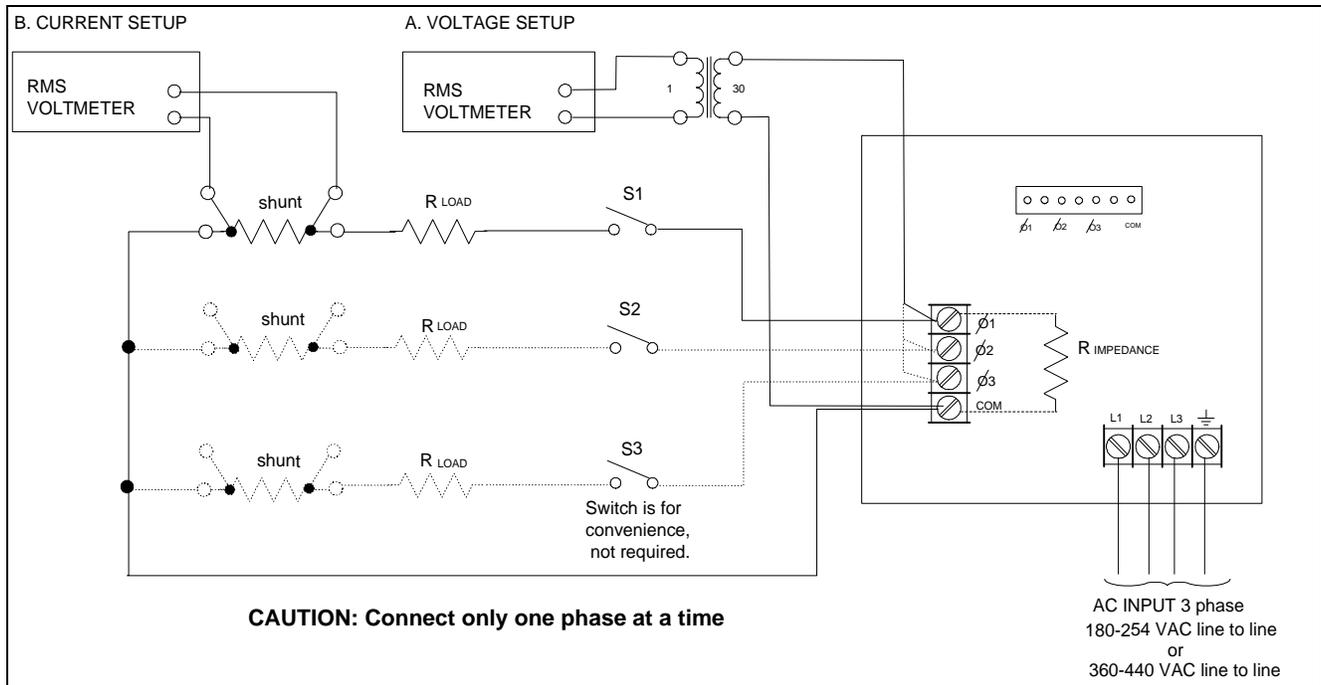

Figure B-1. Verification & Calibration Test Setup
Figure B-1 shows the setup for the tests. Be certain to use load leads of sufficient wire gauge to carry the full output current (see Chapter 2).
Figure B-1 shows the setup. Measure the ac output voltage directly at the output terminals. **If you are verifying a three-phase source**, start by verifying output phase 1.
1. Make sure the ac source is turned off. Connect the DVM and ratio transformer as shown in the test setup in Figure B-1.
1. Turn off the ac source. Connect the load resistor, current shunt, and the DVM across the current shunt as shown in Figure B-1. Use the following load resistor values: Agilent 6814B = 7.5Ω; Agilent 6834B = 15Ω; Agilent 6843A = 5Ω
Table B-1 lists the equipment required for calibration. Figure B-1 shows the test setup.
4. Connect the DVM (ac volts mode) directly to the ac source via the ratio transformer shown in Figure B-1. Do not connect the load resistor or current shunt.